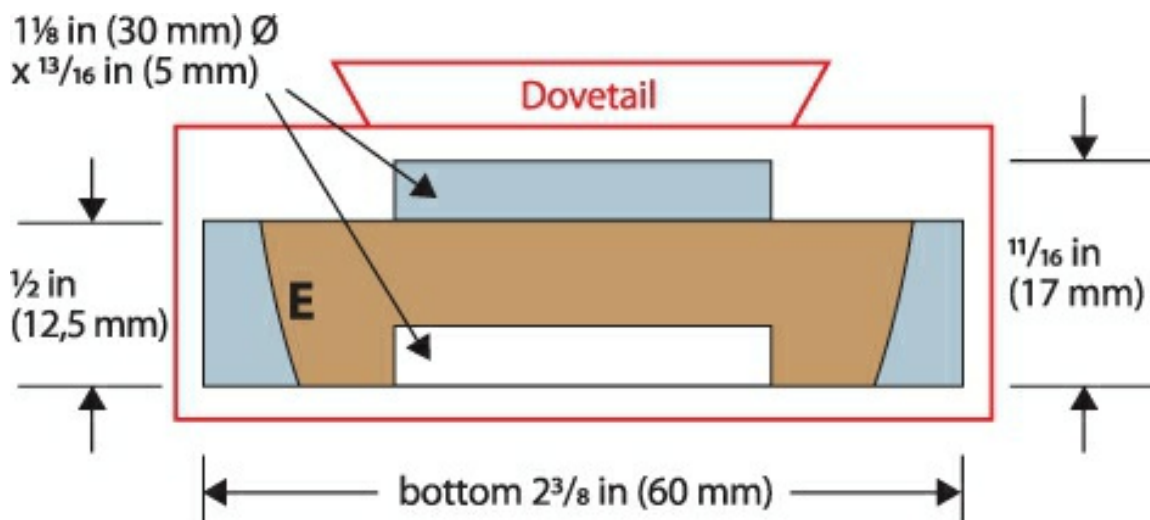

Fig 3
Forming Sections E, F and G, Fig 3
5. Measure and mark the overall length $\frac{11}{16}$ in (17 mm) Fig 3.